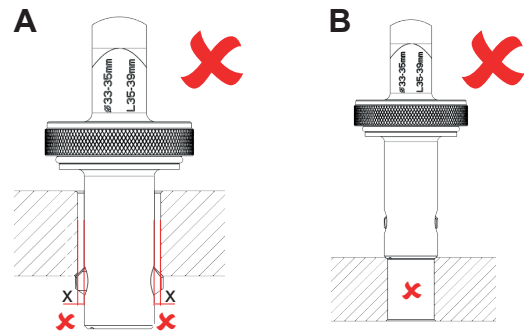

Fig. 9:
- Hole too large: The PIP-RAPIDO/support elements have an insufficient contact surface (cf. Fig. 9 - A).
- Hole too small: The PIP-RAPIDO cannot be mounted (cf. Fig. 9 - B).
- ▶ Only use the PIP-RAPIDO in the prescribed diameter range (see the marking on the shackle connection (L)).